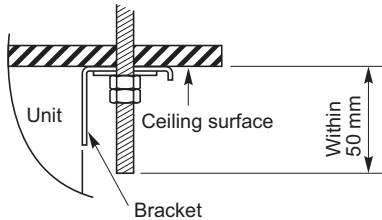

Fig. 1-40
- (5) Screw in the suspension bolts, allowing them to protrude from the ceiling (Figs. 1-38 and 1-39). The distance of each exposed bolt must be of equal length within 50 mm. (Fig. 1-40)